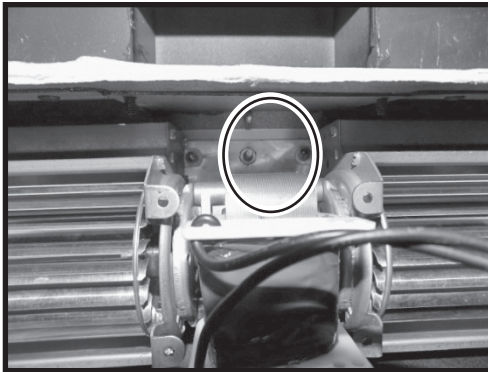
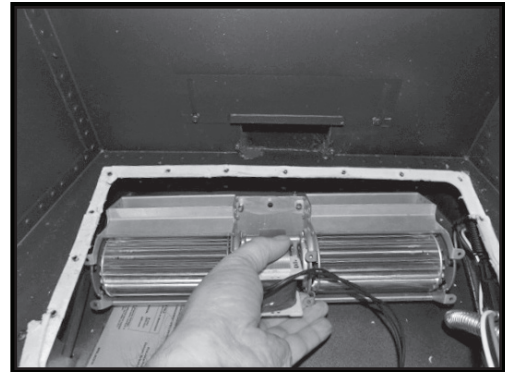

Figure 55: Fan nut location.
Figure 56: Fan removal
8. The fan is located inside the opening and toward the rear of the firebox. A 3/8" nut (Figure 55) holds the fan assembly onto a threaded post. Remove the nut and gently extract the fan assembly from the fire box (Figure 56). Be careful not to accidentally catch any other wires while the fan is being extracted.